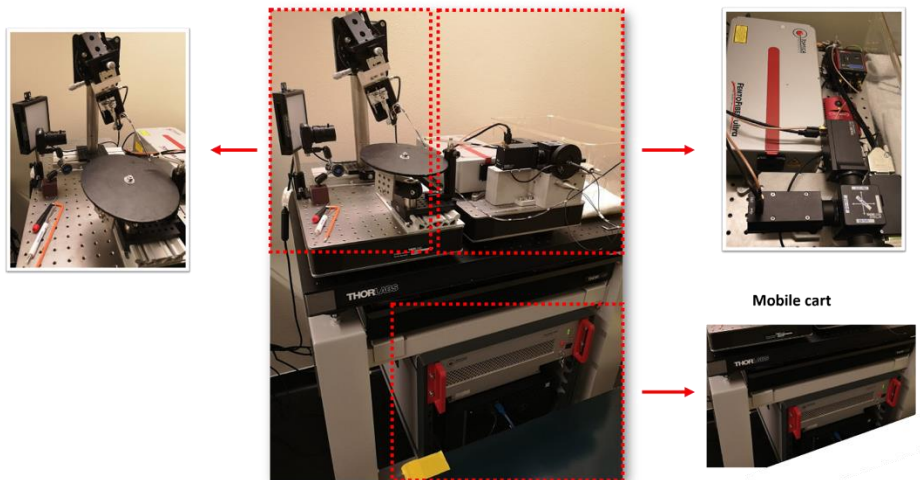

Figure 1 Overview of Mobile Cart Module with the two other integrated modules: Core Optics and Scope-mounting assemblies.
This module comprises a mobile cart (H) with a rack where all functional components are integrated (I) (workstation, laser controller, motors driver, and modules I and II, as shown in Fig. 1 below).